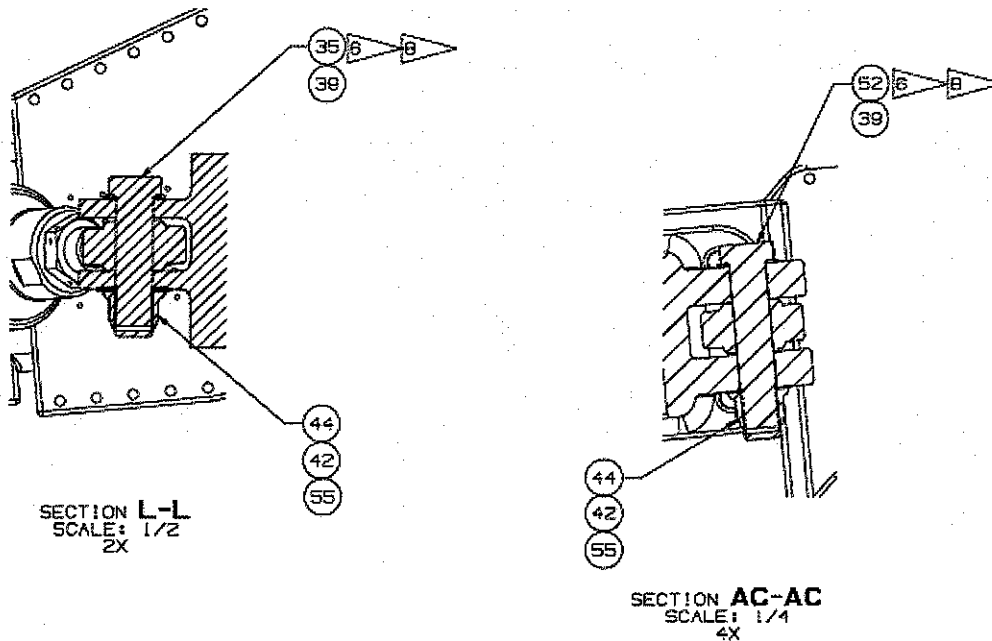

Figure 1-2
of each diagonal strut as shown in Figure 1-2. Bag and retain these parts for reuse. Take care to support the diagonal struts during removal of the pins (35) and washers (39) to prevent damage to the struts or USS.